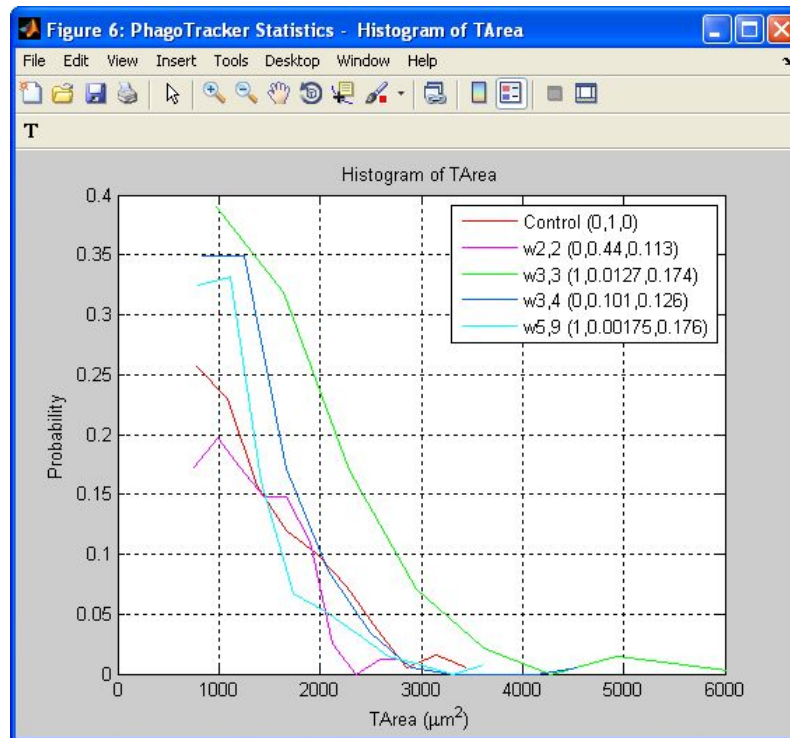
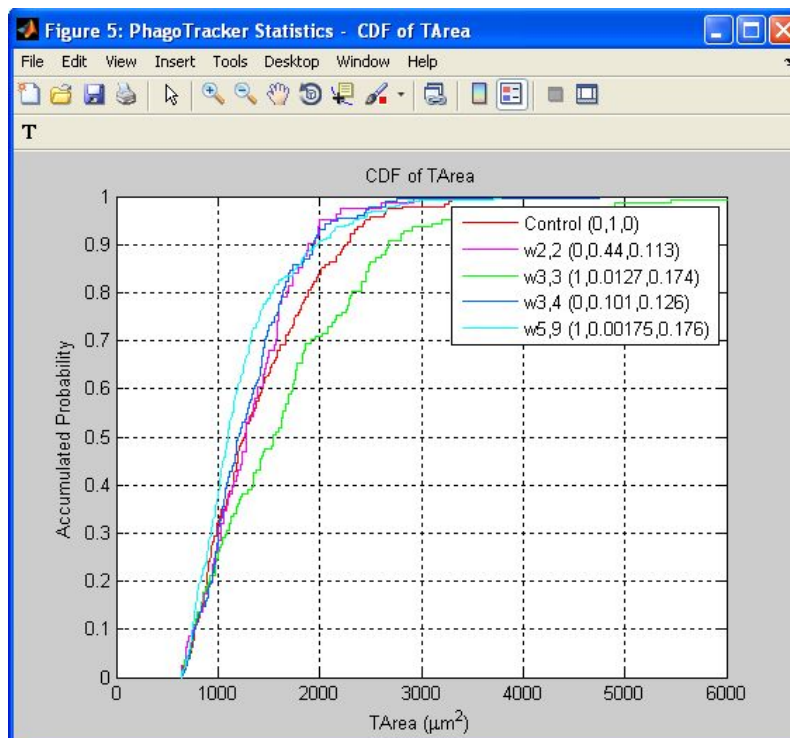

Figure 12: Histogram of Total Area
Figure 13: CDF of Total Area
- *Histogram* – The histogram of values of the selected feature is plotted for each active series. You can set the number of bins in the histogram using the *Number of Histogram Bins* field (which appears in the place of the percentile field when you choose the Histogram graph type). Figure 12 shows the histogram of total area for the control well (1,2) and for wells: (2,2), (3,3), (3,4) and (5,9).
- *Cumulative Distribution Function (CDF)* – the empirical cumulative distribution function of the selected feature is plotted for each active series. Figure 13 shows the cumulative distribution of the same series shown in Figure 12.
In the example shown in Figure 13, The values for the tracks in well (2,2) are (0,0.44,0.113) which means that the distribution of those tracks is the same as those of the control tracks and the p-value of 0.44 according to the KS test. On the contrary for the tracks in well (5,9) we get the values of (0,0.00175,0.176) which means that according to the KS test they came a different distribution than the control tracks, and the p-value is 0.00175.